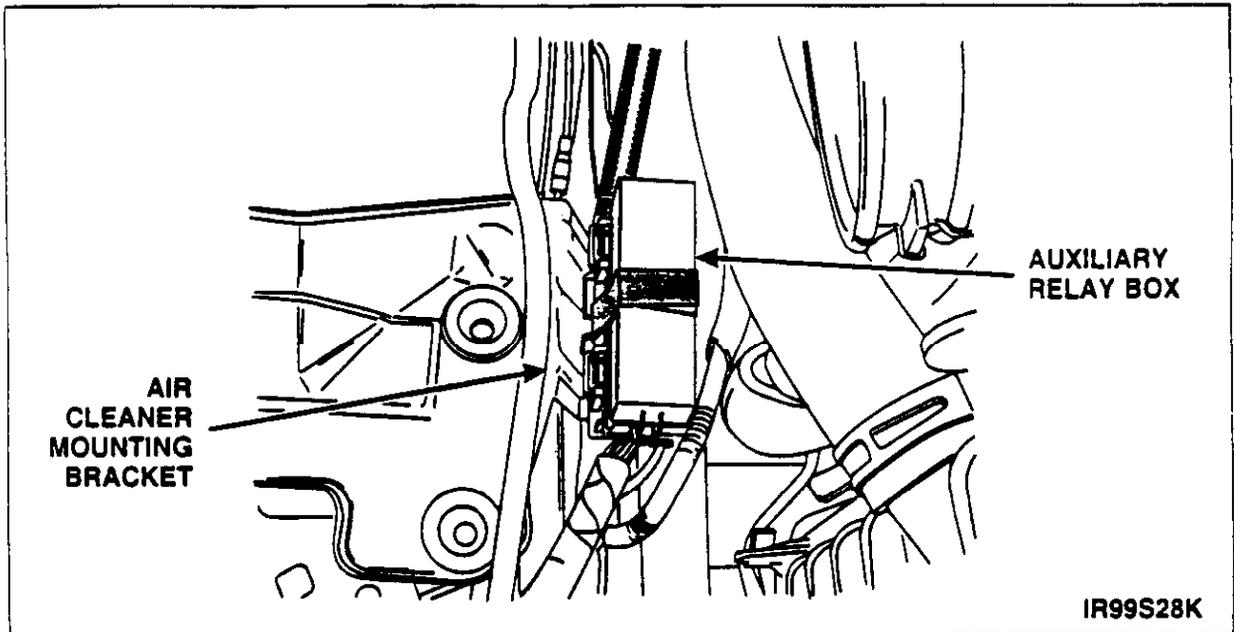

FIGURE 11
6. Unclip the auxiliary relay box from the air cleaner mounting bracket. See Figure 11.